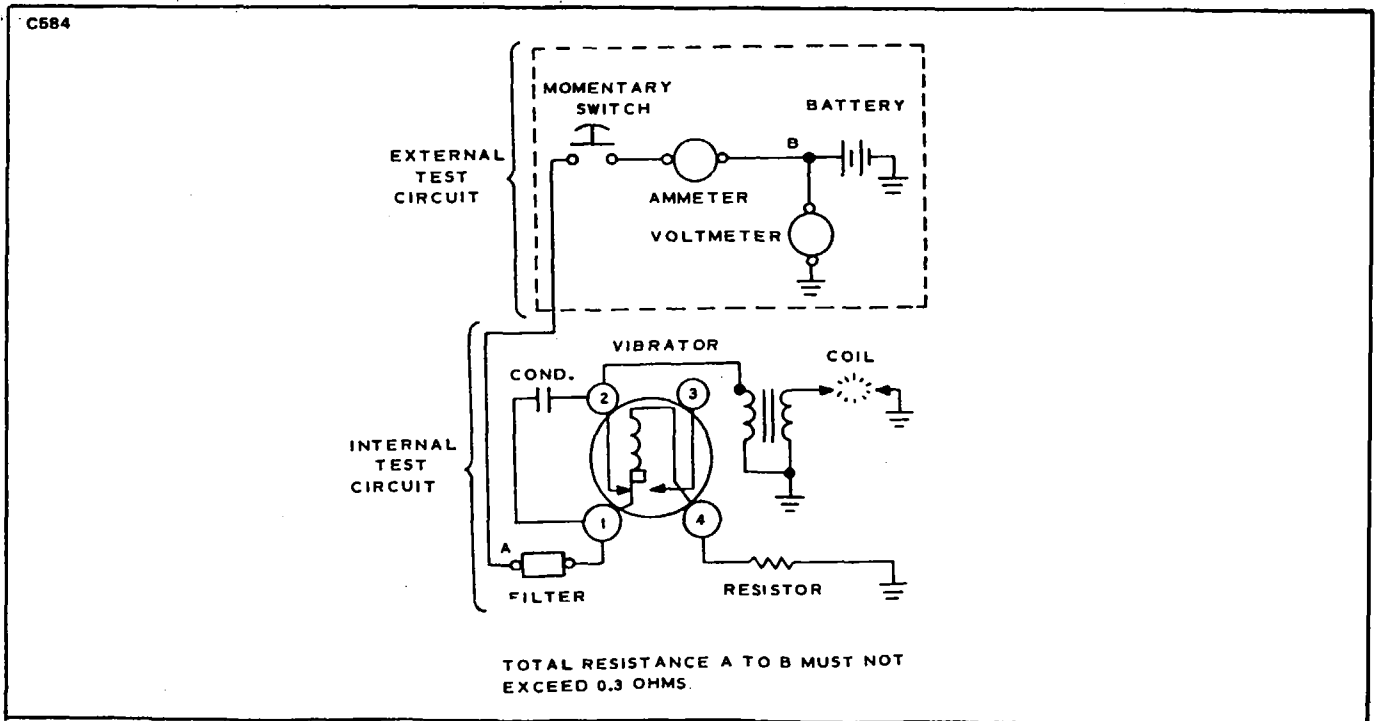

Figure 13-44b. Wiring - Test Setup
6. Arrange the test equipment as shown in Figure 13-44b.